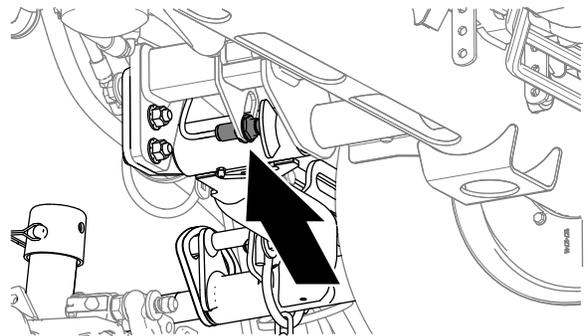

Figure 92
2. The lift-arm switch is located underneath the hydraulic tank and inboard of the cutting unit #5 lift arm (Figure 92).